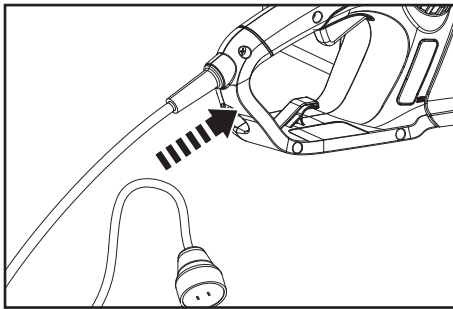

Fig. 4a
1. Make sure the on/off switch (13) is in its off position.
2. Double the extension cable, about a foot from the end. Lead the loop through the hole on the rear safe guard and hook the loop over the cable strain relief (17). Gently pull on the cord to ensure that it is firmly attached at the handle (Fig. 4a, 4b).